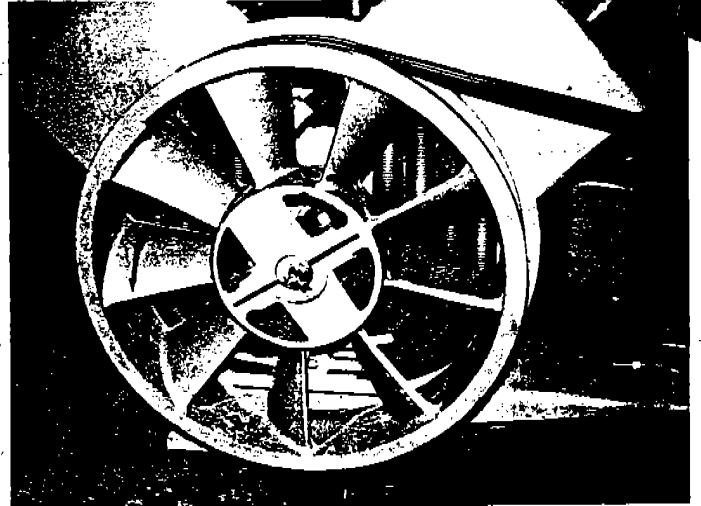

Figure 14
5. Check arrow on auxiliary pump or arrow on charge pump of dyna-power unit for correct rotation daily. Also check arrow on fly wheel of compressor daily. (Fig. 14 & 23)
2. *Running the compressor backwards.* If this happens, correct the situation immediately. If the compressor has been run backward, check the operator's manual for other areas of damage. Check arrow on flywheel. (Fig. 14)